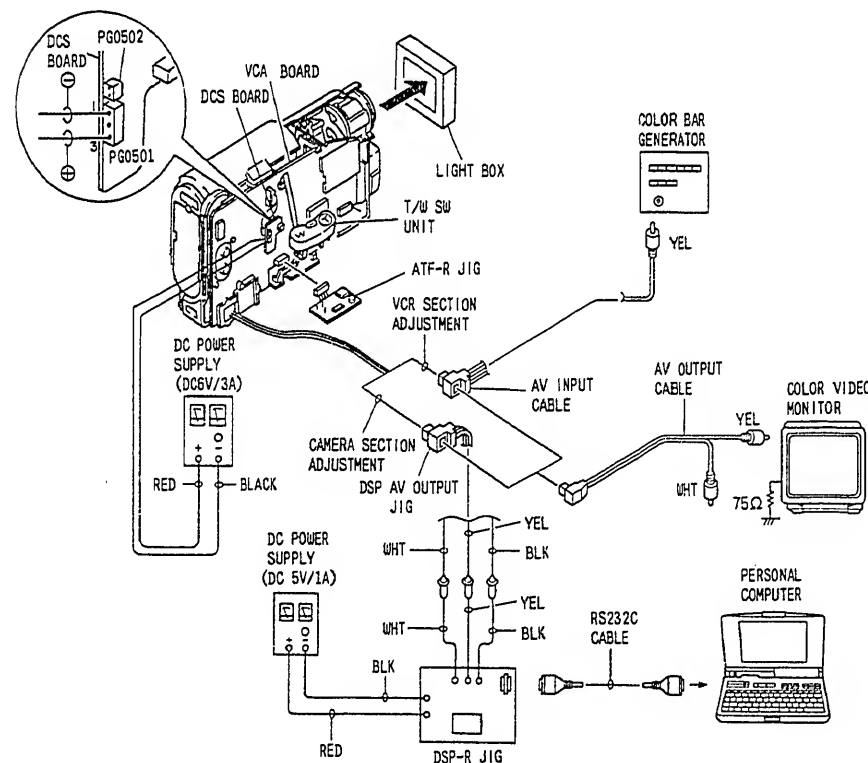

Fig. 1-1 Connection for adjustment
- 3) Connect this unit, a power supply and a color video monitor as shown in Fig. 1-1.
Connect the camera/recorder, DSP-R jig, personal computer, power supply, etc. as shown in Fig. 1-1. Check that the camera/recorder is turned on.